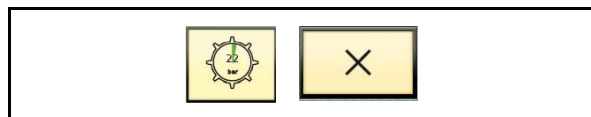

Fig. 159
- The symbols "Pick-up milling cutter Stop" (Fig. 159/left) and "Elevator conveyor Stop" (Fig. 159/right) appear in the terminal.